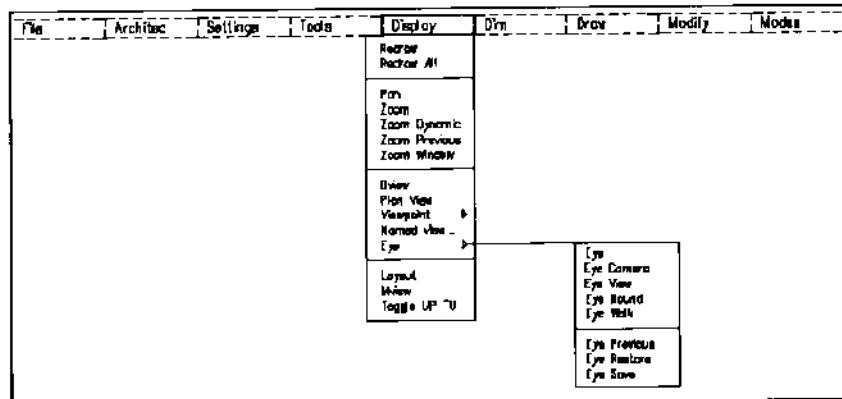

Figure 3.
1. Select the Eye submenu from the Display pull-down menu as shown in Figure 3.
1. To restore the saved view, select Eye View from the Eye submenu shown in Figure 3.